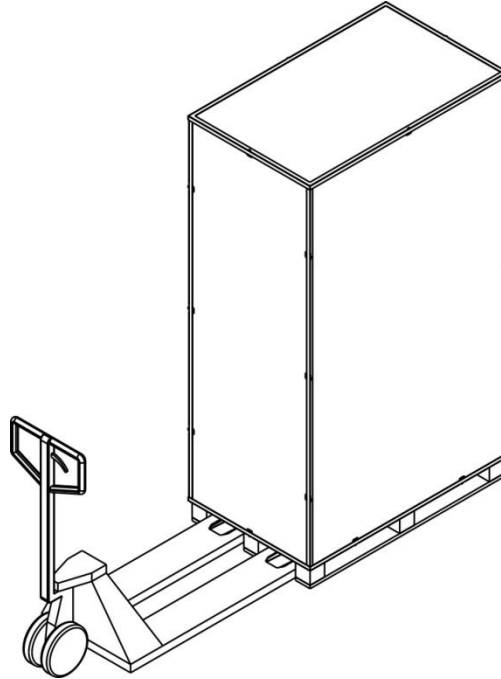

Figure 2-1
- (1) Use a forklift to move the product to installed area. Refer to Figure 2-1. Please make sure the bearing capacity of forklift is sufficient.